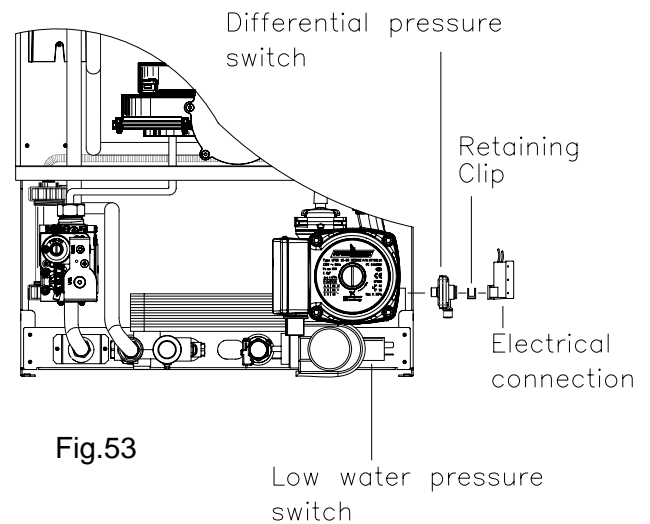

Fig.53
8.17 TO REMOVE/REPLACE LOW WATER OR DIFFERENTIAL PRESSURE SWITCH (Fig. 53).